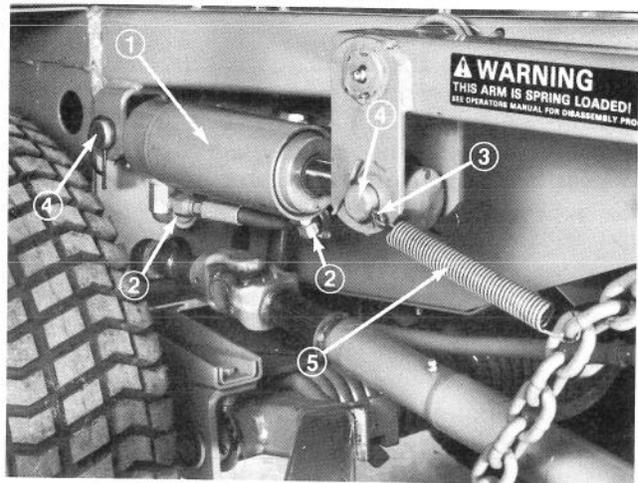

Figure 75
2. Remove hoses from lift cylinder (Fig. 75) and cap the hoses to prevent contamination.
3. Remove hair pin cotters and spring from cotter pin. Remove pins and slide cylinder from between the lift arm and the stationary mounting bracket (Fig. 75).
4. Install new cylinder with pins, and assure the cotter pin (Fig. 75) securing moveable end of cylinder is to the outside. Hook chain tension spring through eye of cotter pin.